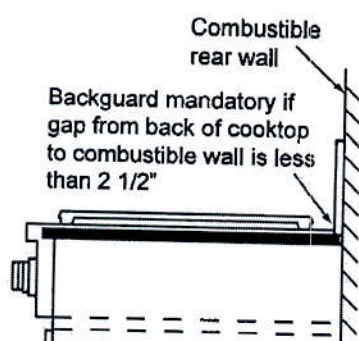

FIGURE 2
- Installation of a non-combustible material (up to the hood) or a backsplash is always recommended, and mandatory if the distance to the back wall from the rangetop is less than 2 1/2" (Figure 2). When installing a backguard, use only Dacor model numbers AEB3609 (DYRTP366) or AEB4809 (DYRTP486). Consult local codes and ordinances for acceptable non-combustible materials.